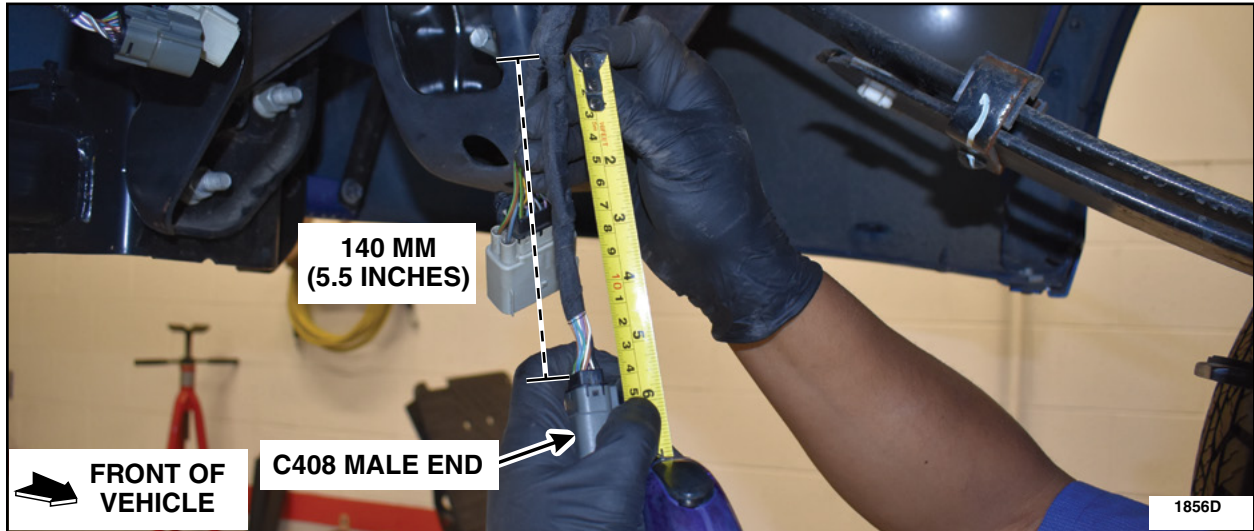

FIGURE 5
8. Measure 140mm (5.5 in) from the back of the male end of C408. Remove 140 mm (5.5 in) of tape to expose the wires. See Figures 5 and 6.